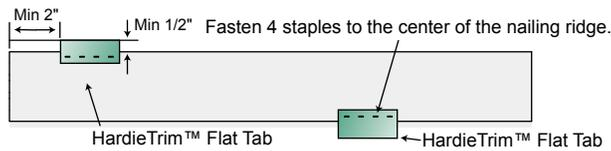

Figure 19
**Step 1:** Attach Flat Tabs to the back side of the trim with 4 18 ga. 1/2" L x 1/4" W narrow crown corrosion resistant staples, equally spaced in one row, positioned no closer than 1/2" from trim edges, using a pneumatic staple gun. (Figure 19)